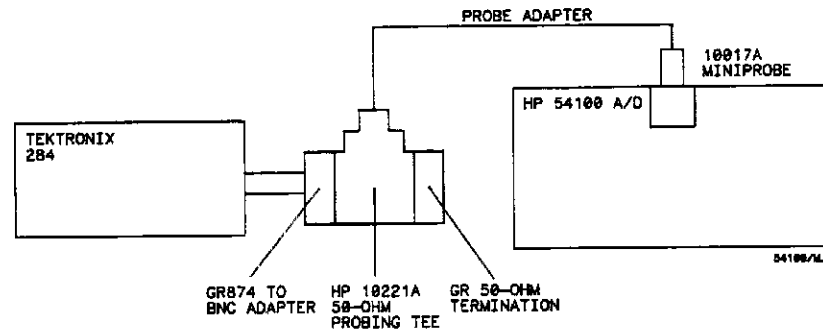

Figure 7C-6. Equipment Setup for High Frequency Adjustment.
3. Use same setup as step #1. Then disconnect 48 BNC cable from flat pulser and connect it to fast rise pulser through a GR874 to BNC (f) adapter. See figure 7C-6.